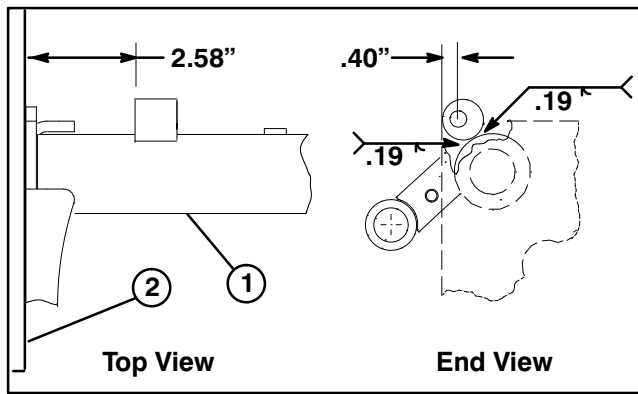

Figure 5
7. Using dimensions shown in figure 5, locate, mark, and weld a spacer tube to top of reel frame cross tube. Measurement is from outside edge of reel frame bracket, not cutting unit side plate.